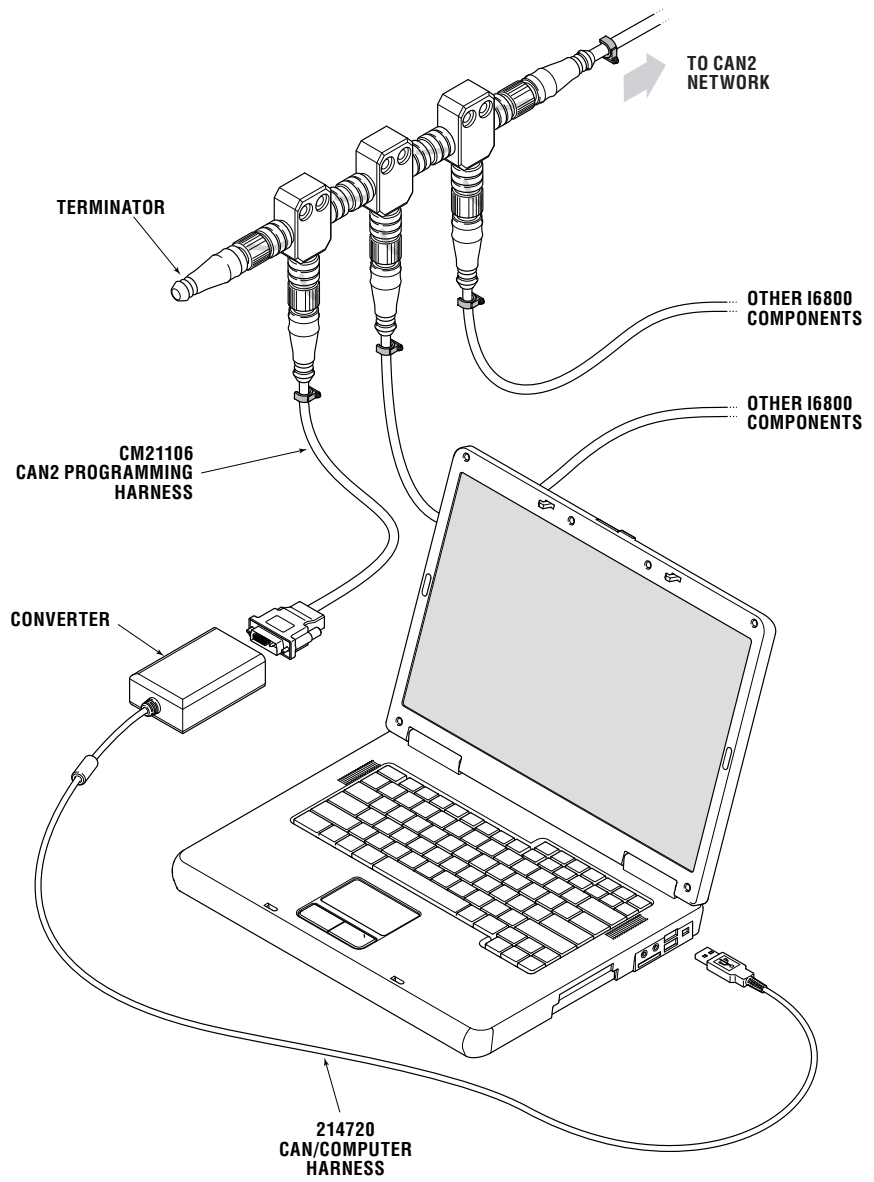

Figure C-1. Dealer Kit connection.
1. Connect the notebook computer to an unused CAN2 network port using the CAN2 programming harness as shown in figure C-1. If necessary an additional tee may be installed but *must* be removed or capped after use. If the spare tee is left in the system, there must still be one (and only one) terminator at each end of the CAN2 bus.